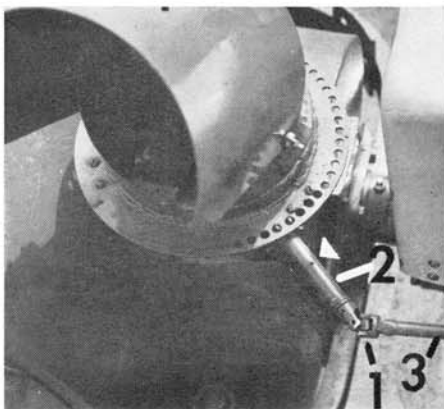

Figure 31
Use light oil as required for the Cog Shaft, pouring through the hole in the Cog Shaft Housing, arrow in Figure 31.
1. Attach the Universal Joint, 1 in Figure 31, to the Cog Shaft, 2 in Figure 31, using the roll pin provided.
2. Attach the Universal Joint to the Control Rod, 3 in Figure 31, using the roll pin provided.